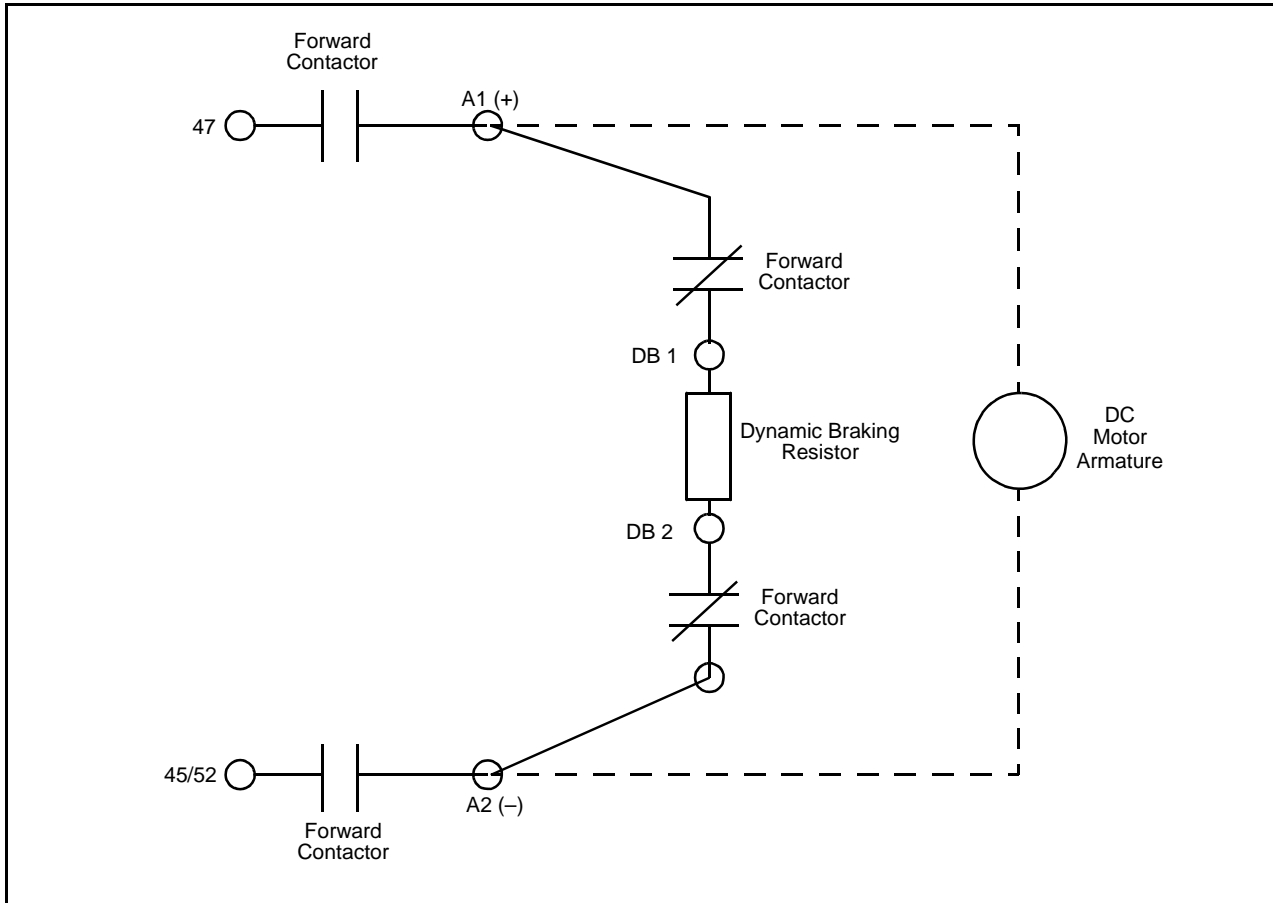

Figure 2 – Dynamic Braking Resistor Schematic for Regenerative Drives and Non-Regenerative Drives Without a Reversing Contactor
- Step 8. **For all regenerative MinPak Plus DC drives and non-regenerative MinPak Plus DC drives without a Reversing Contactor:** Connect the dynamic braking resistor to the normally closed (NC) contacts of the drive's M-contactor. These contacts are to the rear of the M-contactor. This places the resistor across the motor's armature when the M-contactor is de-energized. Refer to figures 2 and 5.